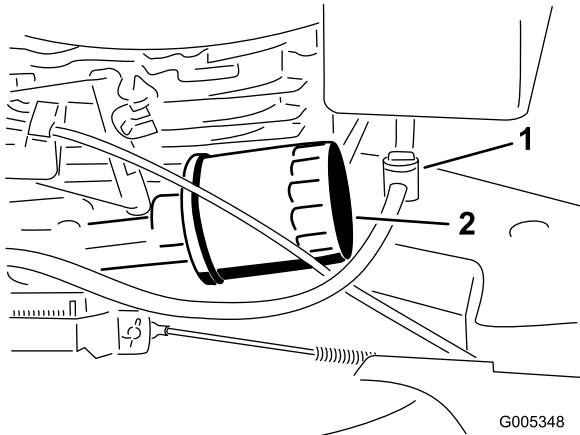

Figure 25
- Remove the oil filter (Figure 25).
- Close the fuel valve (Figure 25).